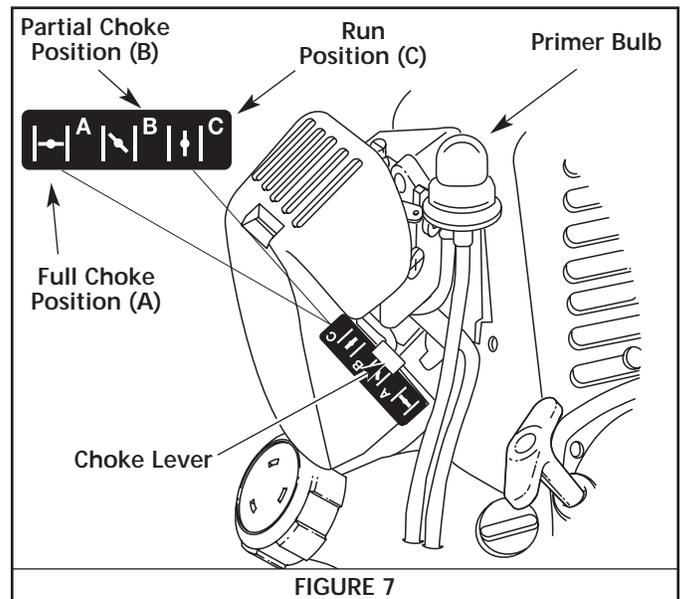

FIGURE 7
4. Place the choke lever in the **FULL** choke (A) |←| position. See Figure 7.
5. Fully press and release the primer bulb 5 to 7 times, slowly, until **FUEL IS VISIBLE IN THE PRIMER BULB**. If you can't see fuel in the bulb, press and release the bulb three (3) additional times, or as many times as it takes before you can see fuel in it. See Figure 7.
8. Move the choke lever to the **PARTIAL** (B) |↘| position. See Figure 7.
**NOTE:** *The engine will not run in the FULL choke (A) |←| position.*
10. Move the choke lever to the **RUN** (C) |→| position and run at full throttle for 30 seconds.
2. Move the choke lever to the **PARTIAL (B)** |↘| position. See Figure 7.